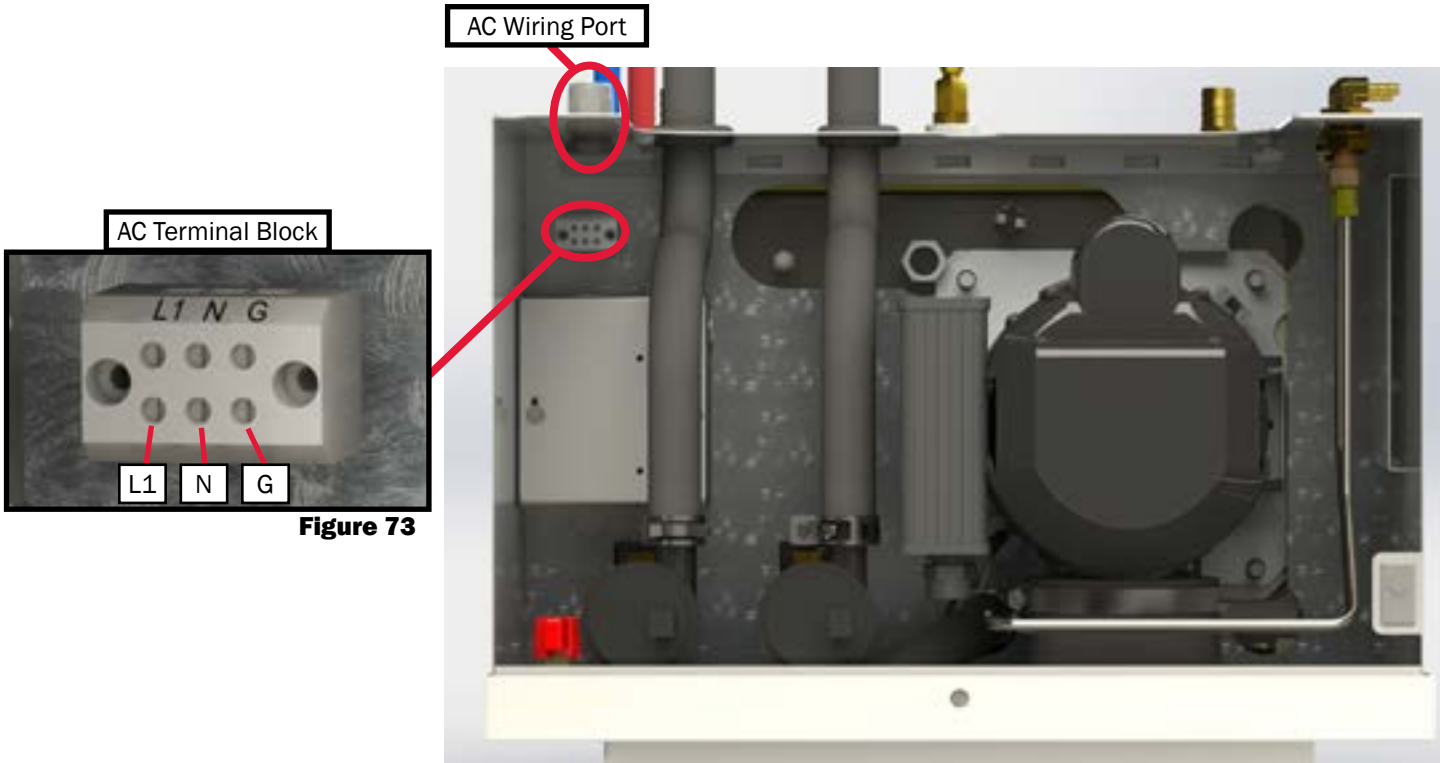

Figure 74
1. Route and insert three 120V AC power source wires into the AC terminal block through the AC wiring port's cable clamp fitting and into the proper terminal. Reference Figure 74 and the schematic on page 46.